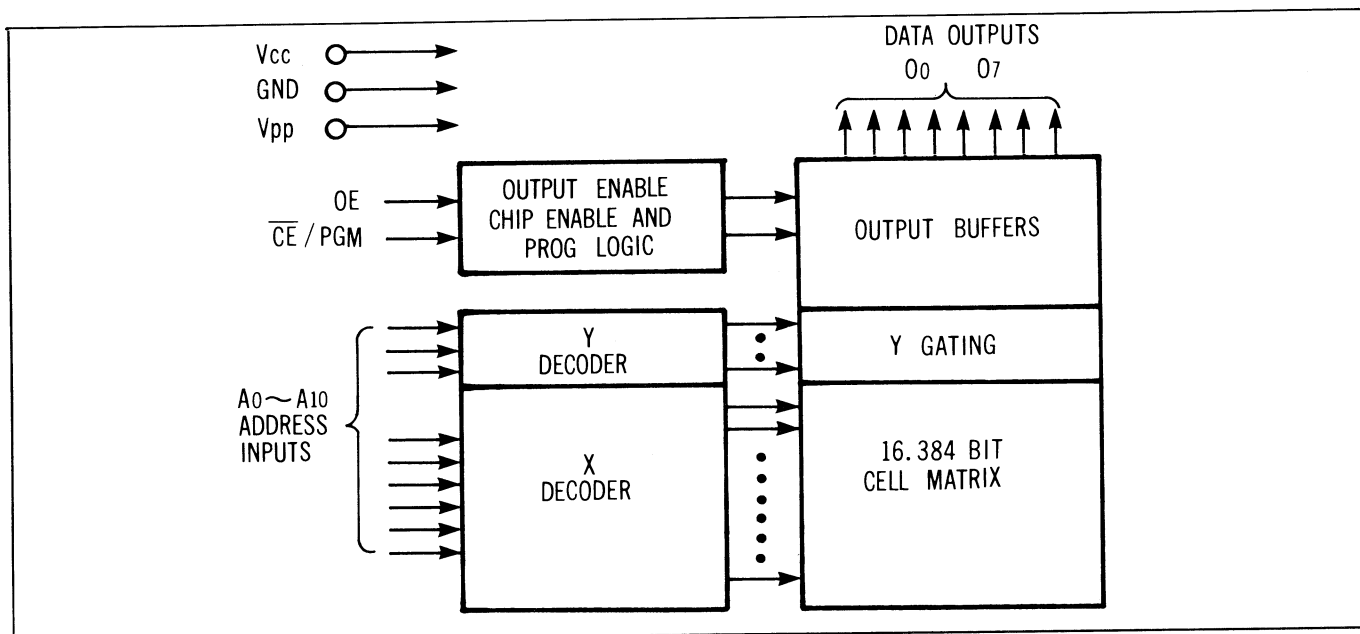
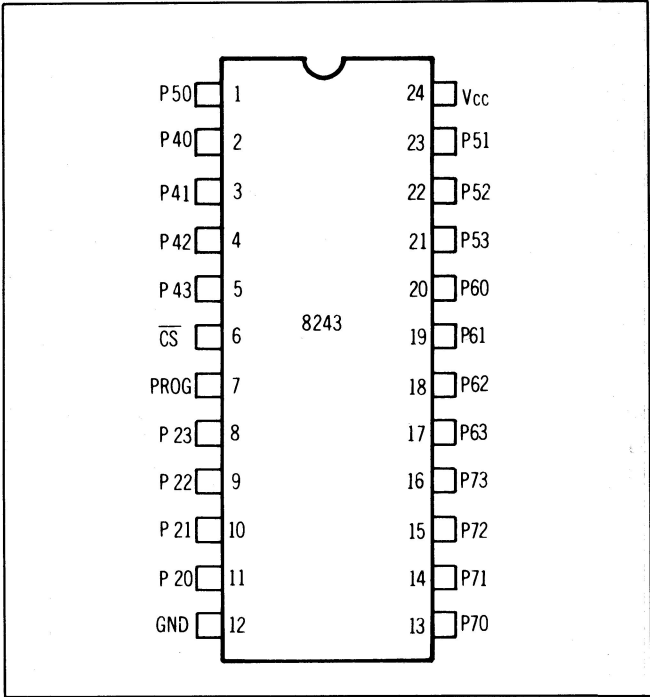

Figure 2-4
Figure 2-10
The program data or instructions are stored in a 16,384 (16K) bit cell matrix, which is organized as 2048 (2K) words 8 bits wide. This fits exactly with the processors 11 address bits and 8 instruction data bits. The chip enable/program input is used for programming, when data must be read into the memory, and the output enable (OE) would be used if multiple memory ICs were needed. (See Figure 2-4)
The MPU by itself has three output ports: C with 12 bits, D with 5 bits and E with 4 bits (See Figure 2-4). Control of the system requires 60 outputs, with 5 of those for multiplexing. Therefore, the 21 bits of the MPU must be expanded. In addition, outputs, unlike inputs, must have the ability to latch or store the data for that bit until a change is sent from the MPU. For example, if one bit lights the Play lamp, it must remain on until the Play mode ceases, even while the MPU is addressing another output. Output expanders, here the 8243, are used. These ICs are actually bidirectional Input/Output expanders, with some internal logic ability, but in this system they are used only for output expansion. The input port from the MPU is called Port 2, and there are four 4 bit outputs called Port 4, 5, 6 and 7. Note that in the pin configuration the ports are marked by P followed by port number and then bit number, i.e. P71 is port seven, second bit. See Figure 2-10, 2-11.